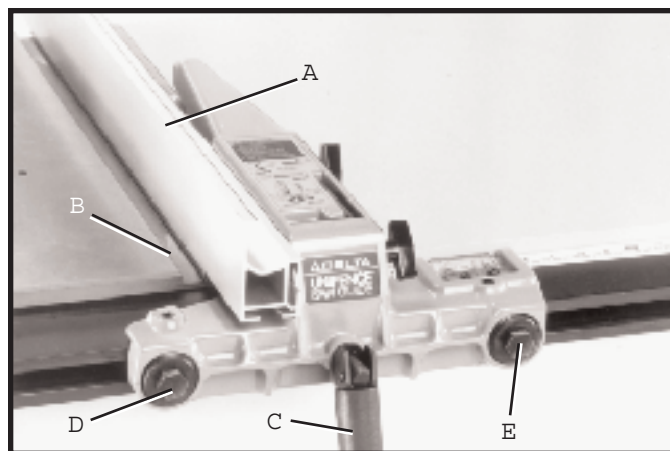

Fig. 59
The fence (A) Fig. 59, should be adjusted so it is parallel to miter gage slots (B). To check and adjust, move the fence (A) until the bottom front edge of the fence is in line with the edge of the miter gage slot as shown, and push down on fence clamping lever (C). Check to see if the fence is parallel to the miter gage slot the entire length of the table. If the rear of the fence must be moved, slightly tighten or loosen one of the adjustment plugs (D) or (E) Fig. 59, using the arbor wrench or 7/8" wrench, until the fence is parallel with the miter gage slot. **IMPORTANT: DO NOT OVERTIGHTEN ADJUSTMENT PLUGS (D) AND (E) FIG. 59. VERY LITTLE MOVEMENT OF THESE ADJUSTMENT PLUGS IS NECESSARY WHEN ADJUSTING THE FENCE PARALLEL WITH THE MITER GAGE SLOT.**